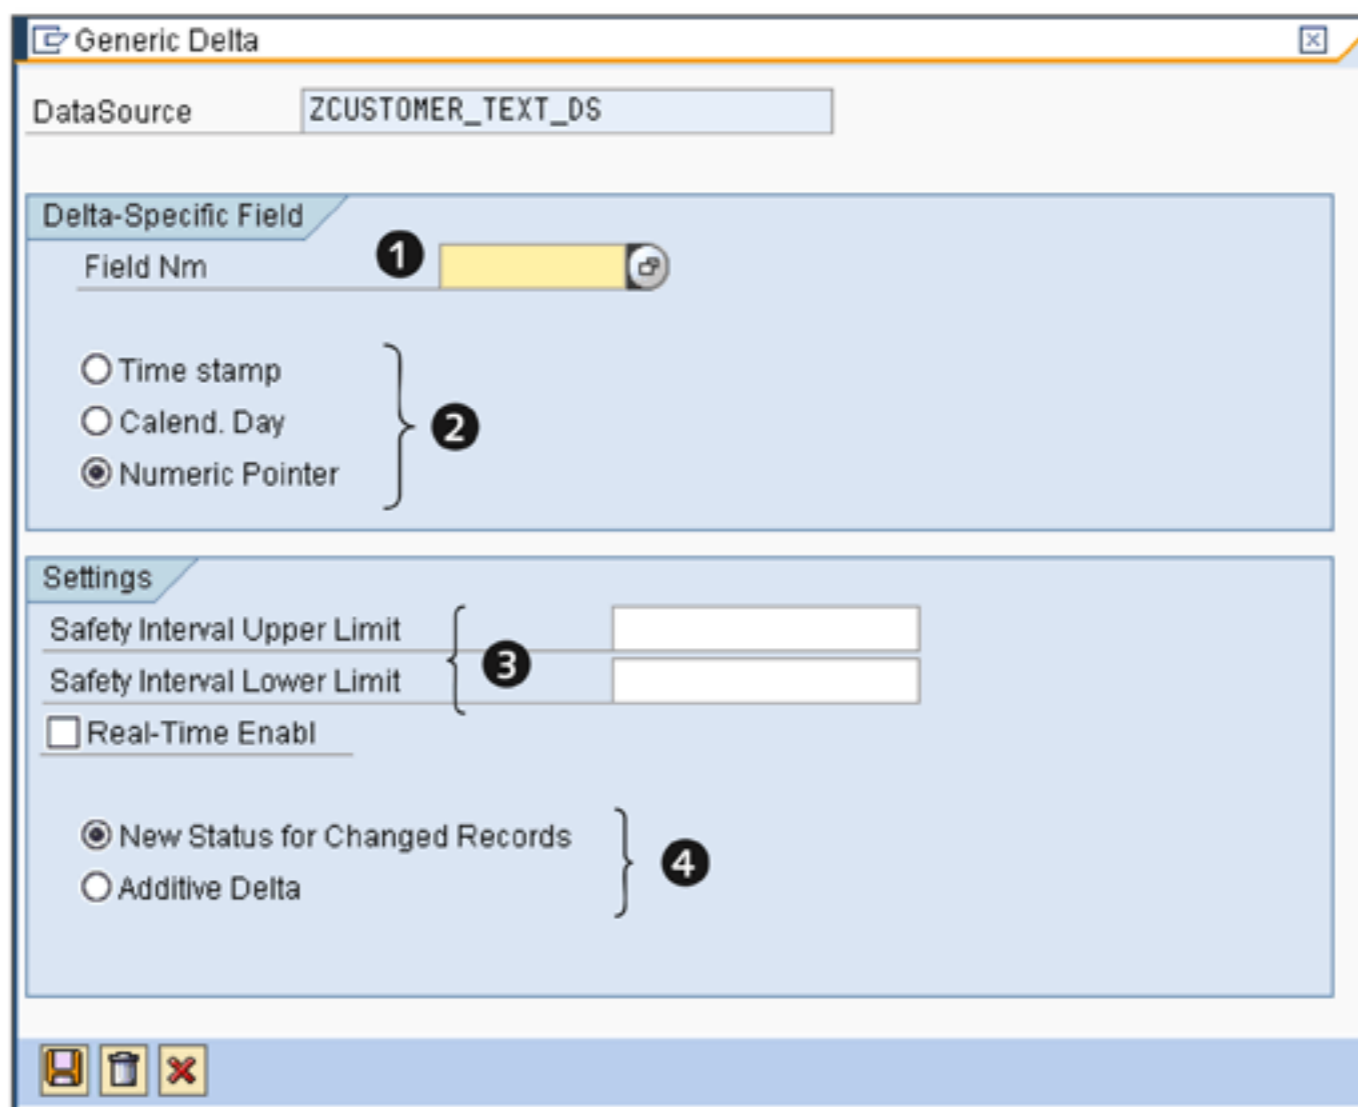

Figure 8.11 Settings Available for Creating Delta-Capable Generic DataSources
When you click on the GENERIC DELTA button, a pop-up box appears, as shown in Figure 8.11. Next we divide our discussion of the fields on the screen based on the screen's two main areas: DELTA-SPECIFIC FIELD and SETTINGS.
Making a DataSource delta-capable requires a delta-relevant field that supports delta identification and enables the delta capability. Enter the name of that field in the FIELD NM field shown in ❶ of Figure 8.11. The system uses three different types of fields to recognize delta records (❷): TIME STAMP, CALEND. DAY, and NUMERIC POINTER. The assumption regarding the generic delta DataSource is that the value of the field declared here increases monotonically over time. When a delta-relevant field (e.g., a timestamp) exists in the extraction structure, the system determines the data volume transferred in the delta mode by comparing the maximum value transferred with the last load, to the amount of data that has entered the system after the maximum value of the last load. Only those records that have a higher value are identified as delta records.
In ❸ of Figure 8.11, you can see the fields for setting a safety interval. The purpose of a safety interval is to make the system extract records (with the next extraction) that appear during the extraction process but aren't extracted (perhaps because they haven't been saved at the time of extraction).
A DataSource with this setting indicates that a record to be loaded returns the latest value for all characteristics and key figures. The data from this type of DataSource can be loaded to a DSO and InfoObject with master data in SAP NetWeaver BW (4 of Figure 8.11).